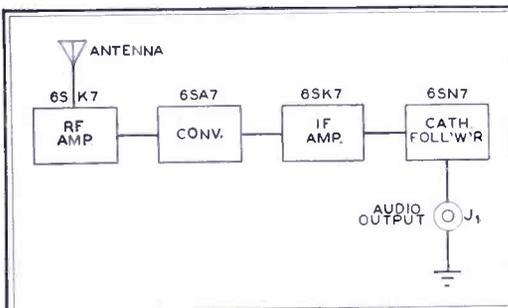

FIG. 9. BLOCK DIAGRAM OF THE AM RECEIVER CHASSIS. OUTPUT GOES TO AMPLIFIER CHASSIS
**AM Tuner** ★ AM tuner chassis, Fig. 9, is of conventional design. The RF amplifier is a tuned RF stage which feeds a 6SA7 converter. The 6SA7 serves the function of both oscillator and mixer to convert the RF signal to an intermediate frequency of 456 kc. This chassis contains one 6SK7 IF amplifier which feeds a 6SN7. One-half of this tube acts as a diode